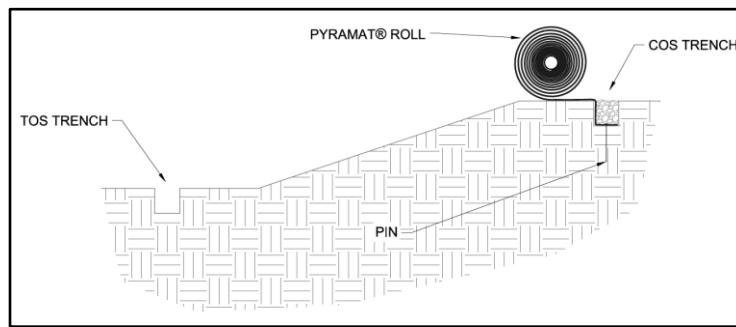

Figure 5: Crest of Slope (COS) Trench Placement
4. Backfill and compact the COS trench in the location of the first PYRAMAT panel only (Figure 5).